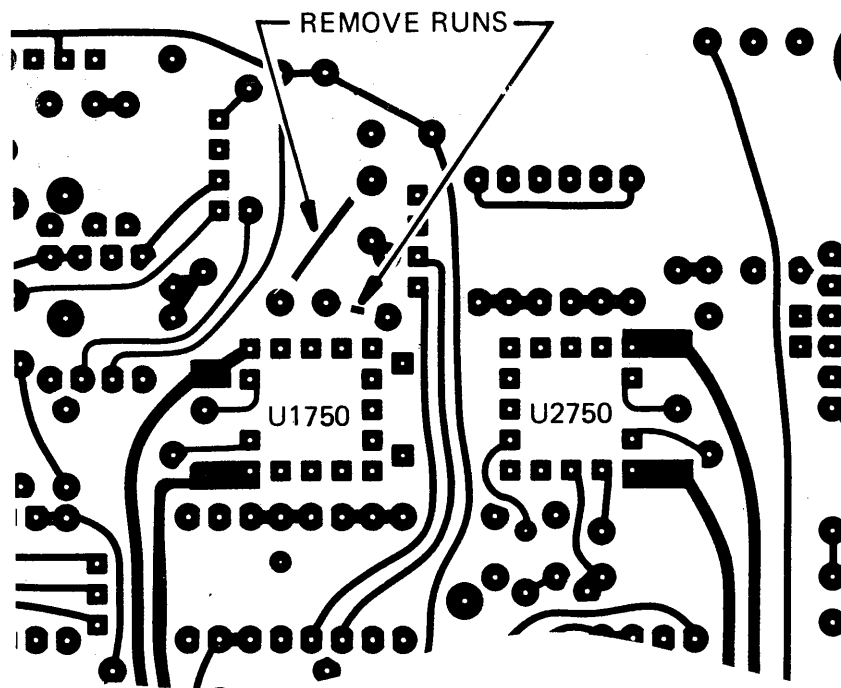

Fig. 1. Partial - Amplifier circuit board (solder side)
- () 4. Amplifiers in the serial number range B050000 to B109999 only: Cut and remove the two runs on the back of the Amplifier circuit board as shown in Fig. 1.